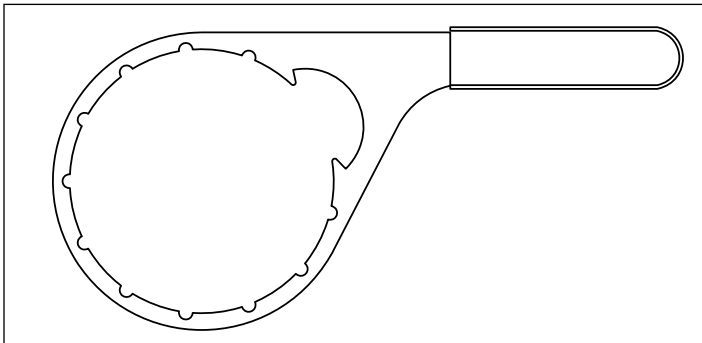

Figure 15 – Collar Wrench
3. Using the collar wrench loosen the collar. (See Figure 15). Remove the clear cover and collar from the Industrial Pro. Discard the cover O-ring and install a new O-ring (supplied with the filter) on the cover. Clean the threads on the collar and body of the Industrial Pro.